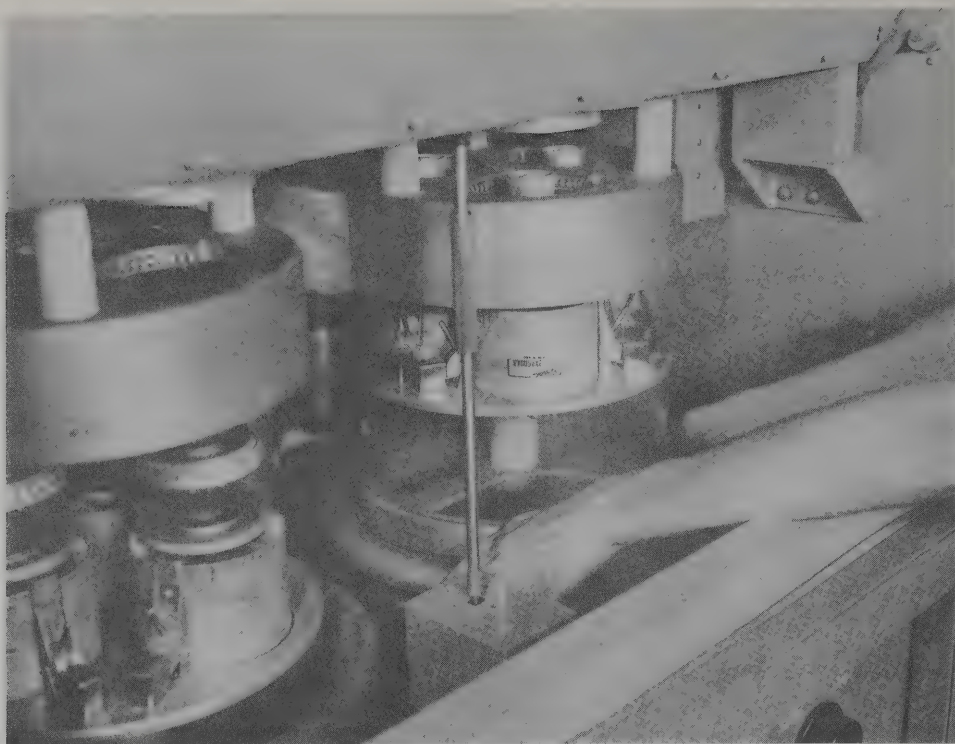

Figure 21. Raising or Lowering Power Amplifier Tubes.
- (1) *Tubes.* Return to proper sockets as indicated by type designations on chassis.
- (a) Tubes for the power amplifier are installed as follows (fig. 21): The figure illustrates how to hold the tube platform for raising or lowering. To lower, turn the handwheel in a counterclockwise direction.